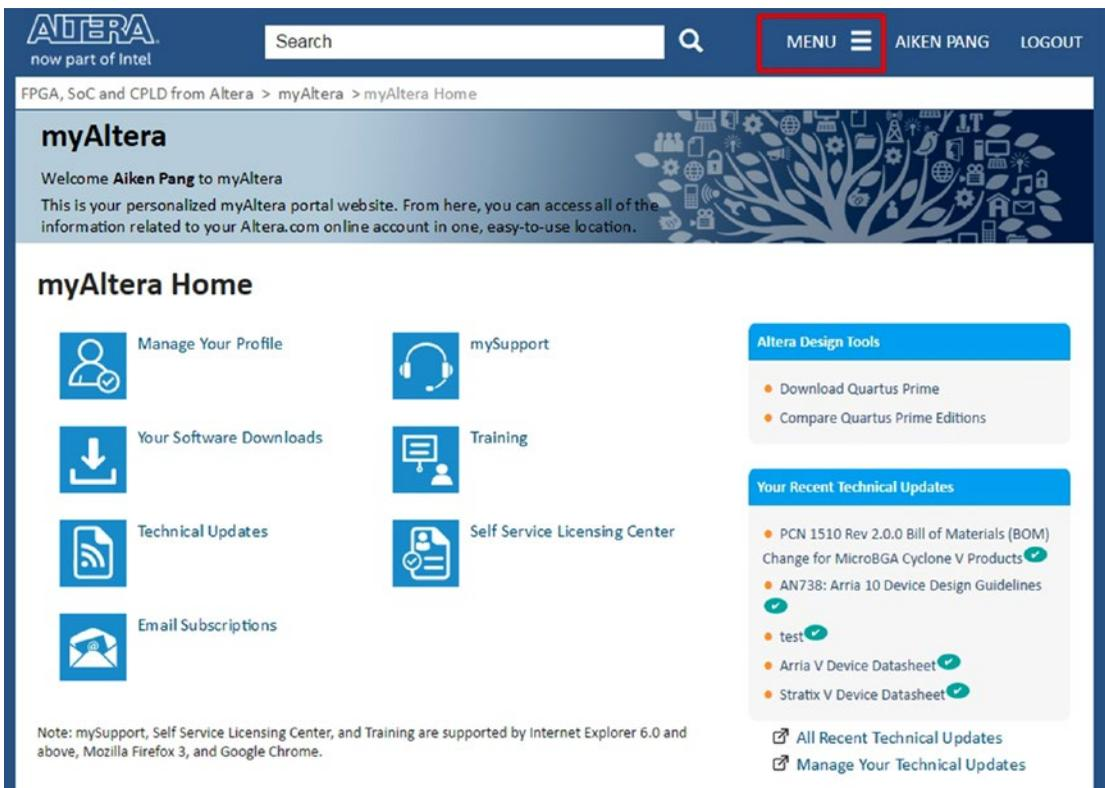
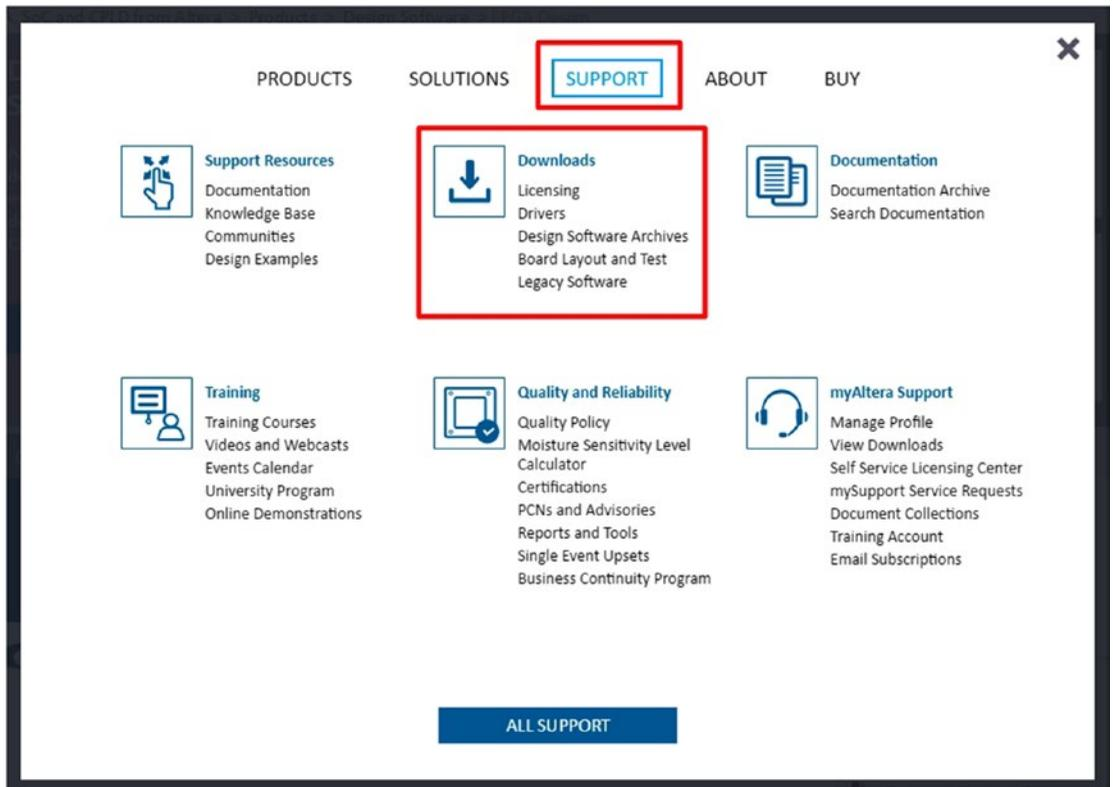

Figure 3-3. myAltera Home page after login
Figure 3-4. Pop-up window for downloading the tools
2. You should then receive an e-mail containing a link to complete the registration process after submitting the form. Click the activation link in the e-mail to prove that you weren't providing a fake e-mail address, and you should be good to go. If you're signed in now, you should see WELCOME, "Your Name," and Sign Out links at the top of each Altera page where you previously saw the MYALTERA tab (Figure 3-3). At this point your myAltera account should be ready to download Quartus® Prime Lite edition.
1. Once you are logged in to the Altera web site with your account, click **MENU** on the top menu. Figure 3-3 shows the login page. There will be a pop-up window as Figure 3-4. Click the top **SUPPORT** and click **Downloads**.